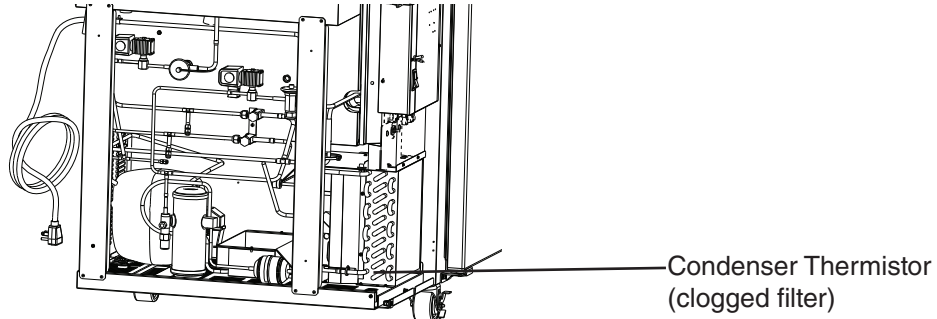

Fig. 7
- 3) Remove the aluminum tape and cut the cable tie securing the thermistor. See Fig. 7.